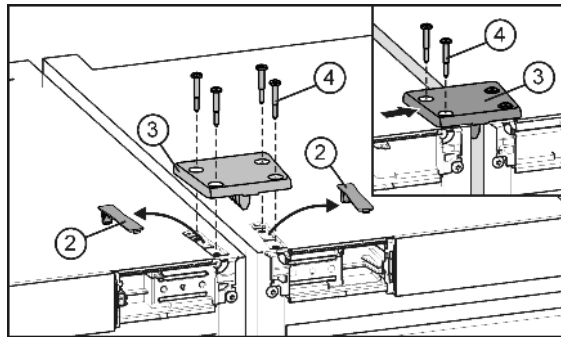

Fig. 5
- ▶ Unclip and remove the covers Fig. 5 (2).
- ▶ Put the joining plate Fig. 5 (3) in place and fix it loosely to one appliance with two screws Fig. 5 (4).